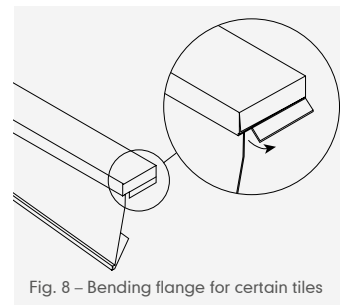

Fig. 8 – Bending flange for certain tiles
- 9 When installing the dry verge in conjunction with medium format (15" x 9"), thin leading edge large format tiles or slates, or Lincoln interlocking pantiles, the leading flange should be bent out slightly to allow the verge to engage at a lower level and accommodate tiles with a thinner leading edge. The dry verge flange will need to be bent out as shown in Fig. 8.